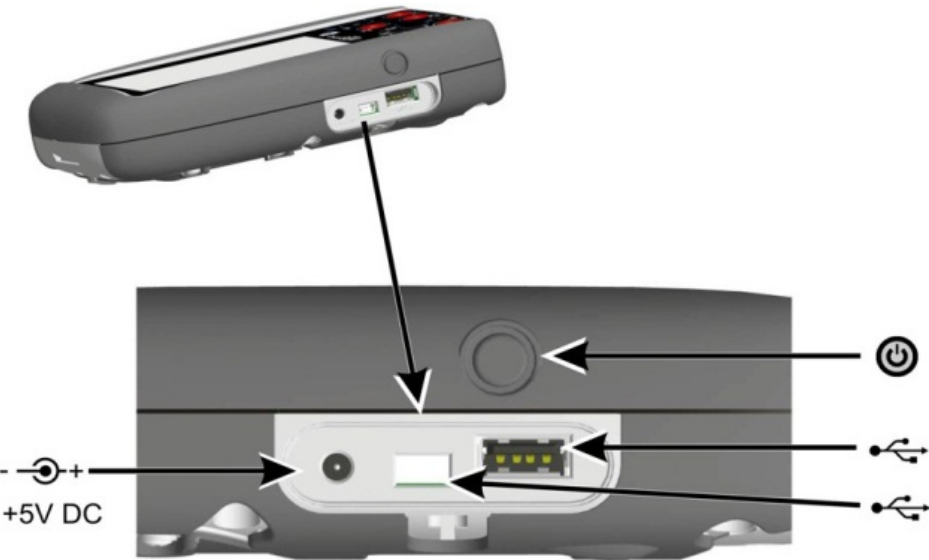

Figure 1-3
- 1. Connect the DC power supply into the +5V DC connection on the side of the unit (Ref: Figure 1-3).
- 2. The battery can also be charged using the USB connections (Ref: Figure 1-3).
From OFF – momentarily press the power button until the display flashes (Ref: Figure 1-3) .